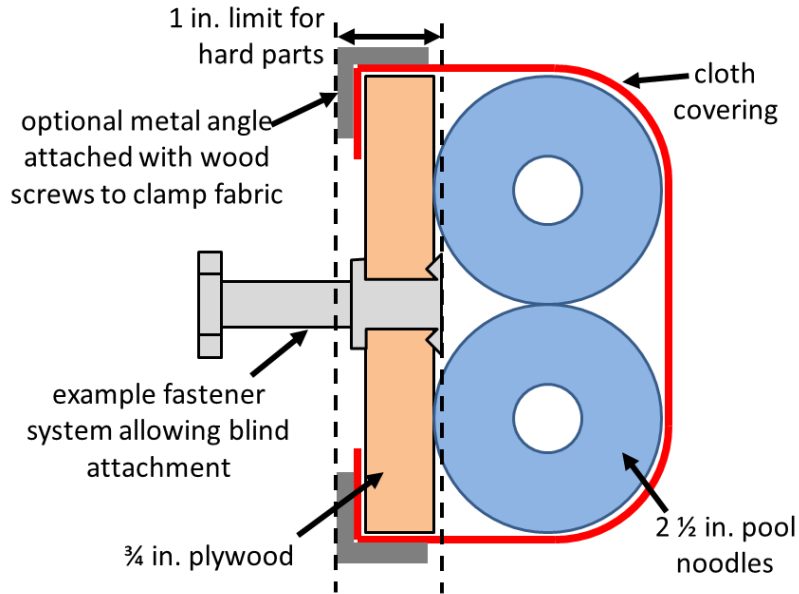
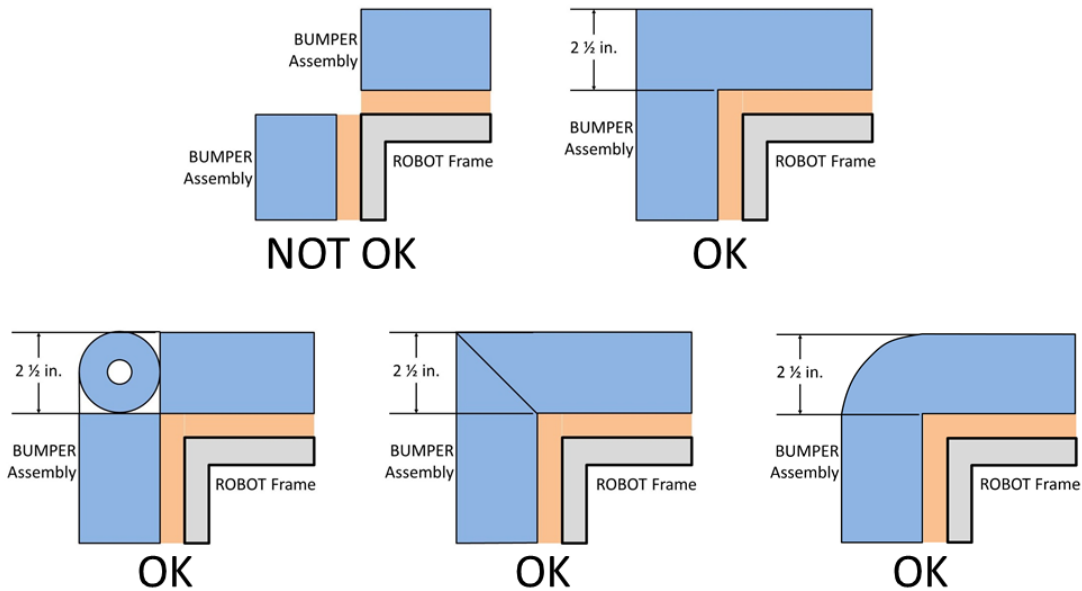

Figure 9-7 BUMPER vertical cross section
Figure 9-8 Soft parts of BUMPER corners
- R24.** BUMPERS must be constructed as follows (see Figure 9-7):
- C. use a stacked pair of approximately 2½ in. (nominal, ~63mm) round, petal, or hex “pool noodles” (solid or hollow) as the BUMPER cushion material (see Figure 9-7). All pool noodles used in a BUMPER set (e.g. Red set of BUMPERS) may not be modified (with the exception of cutting to length or cutting to facilitate mating pool noodles at the corners as required by R25) or deformed and must be the same diameter, cross-section, and density (e.g. all round hollow or all hex solid). Cushion material may extend up to 2½ in. (~63 mm) beyond the end of the plywood (see Figure 9-8). To assist in applying the fabric covering, soft fasteners may be used to attach the pool noodles to the wood backing, so long as the cross section in Figure 9-7 is not significantly altered (e.g. tape compressing the pool noodles).
- D. be covered with a rugged, smooth cloth. (multiple layers of cloth and seams are permitted if needed to accommodate R21 and/or R22, provided the cross section in Figure 9-7 is not significantly altered).
- E. optionally use metal angle, as shown in Figure 9-7 or other fasteners (e.g. staples, screws, adhesives, etc.) to clamp cloth.
- R25. Corner joints between BUMPERS must be filled with pool noodle material. Examples of implementation are shown in Figure 9-8.